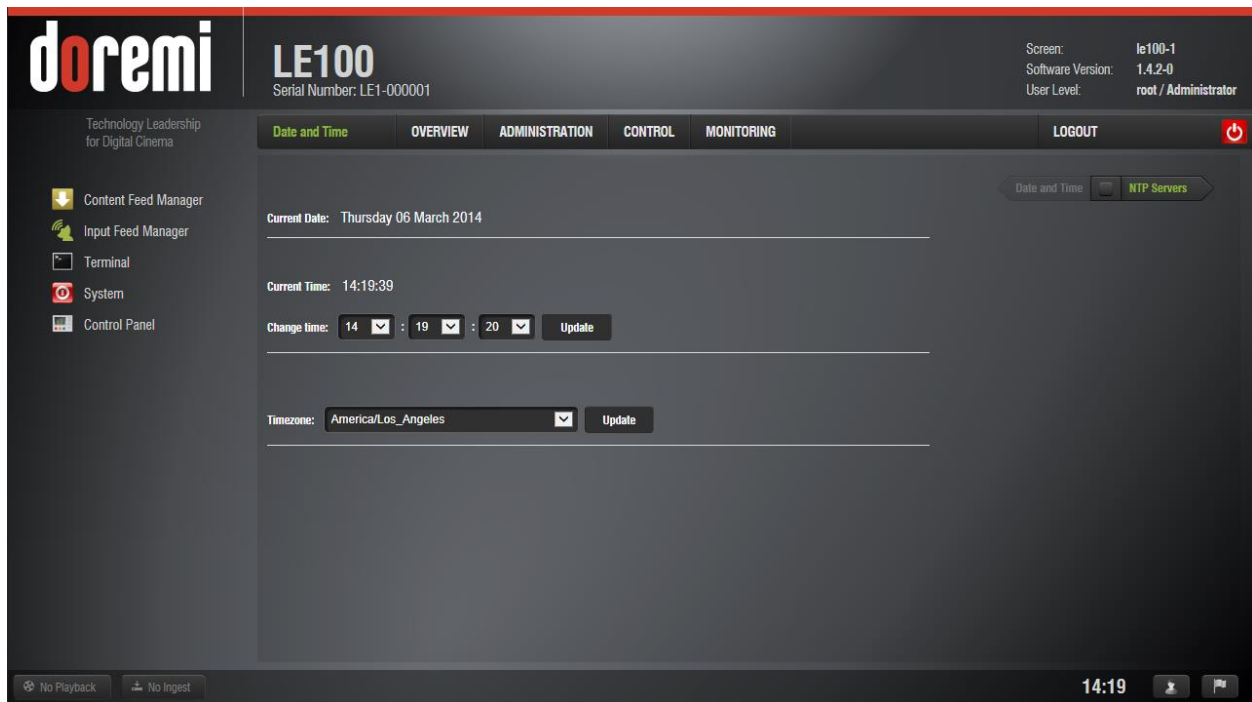

Figure 9: Administration – Time Settings
- Click on the Update button for changes to take effect. (Click both Update buttons if configuring the time and time zone.) See Figure 9.